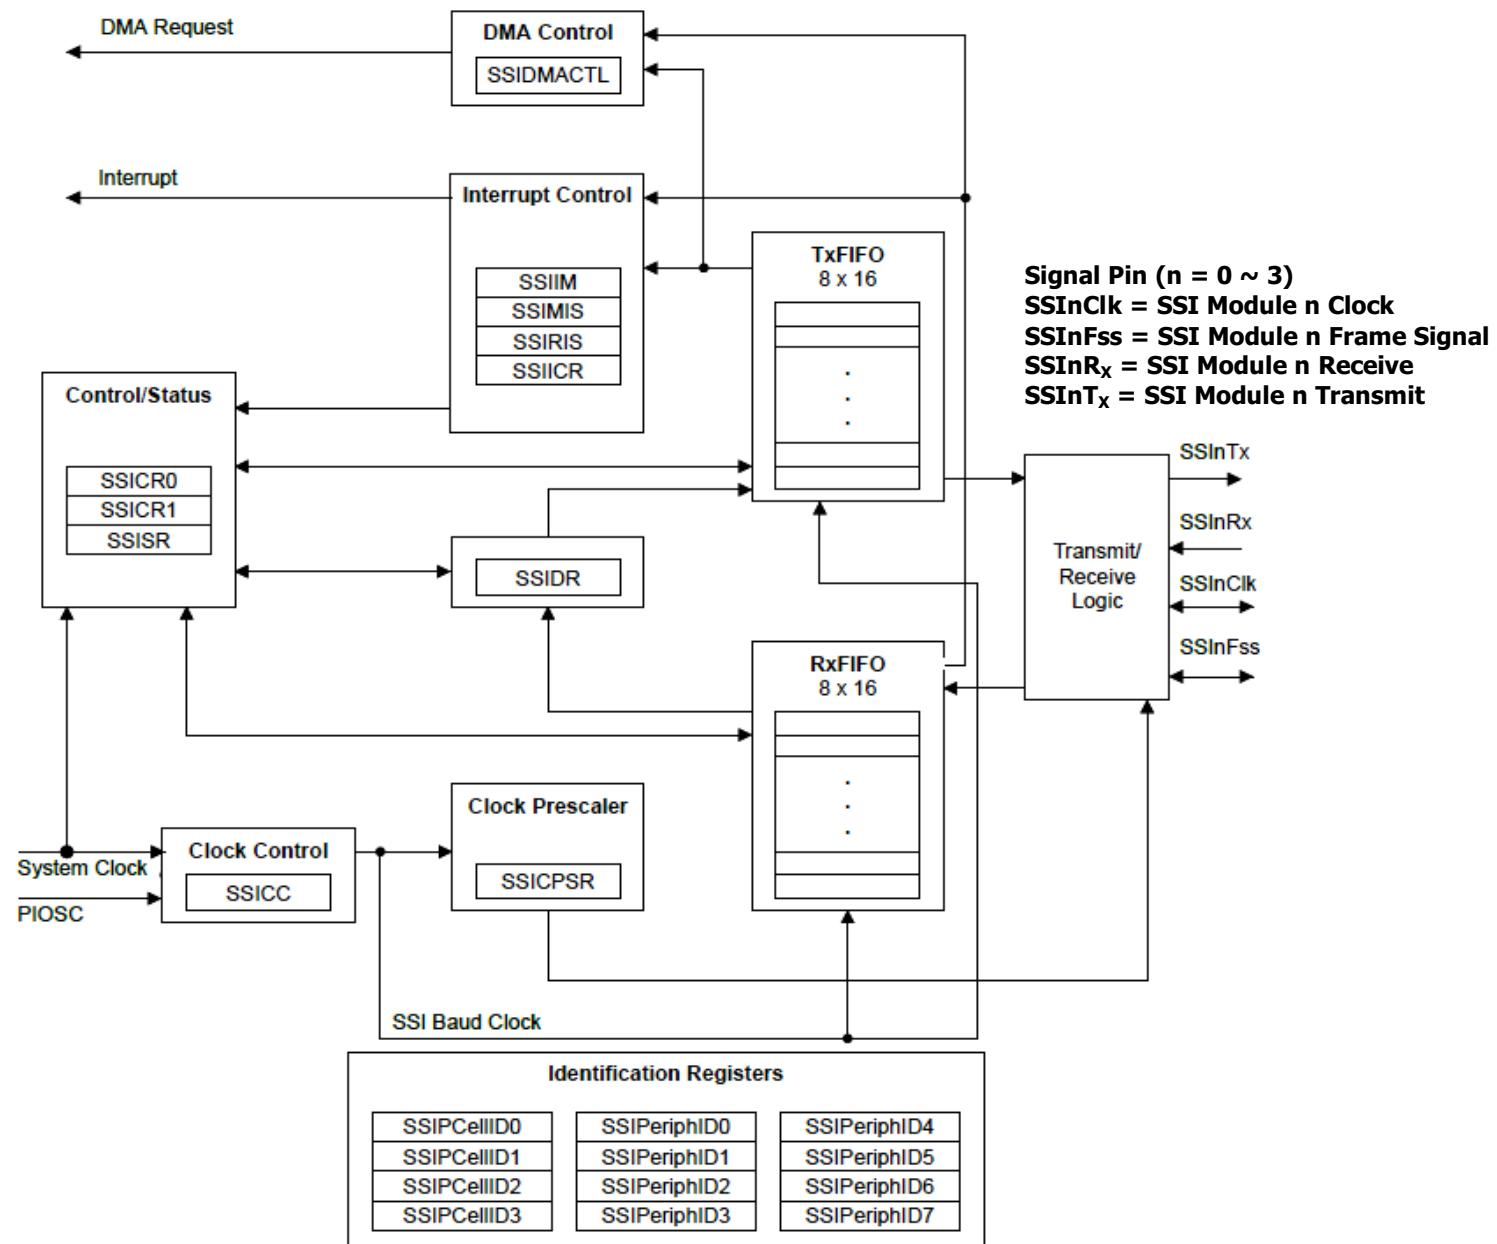

Figure 8.4 Functional block diagram of the SSI module.
- Figure 8.4 shows the architecture and functional block diagram for a single **SSI** module used in the TM4C123 system. For all four SSI modules, each module contains an identical and independent set of these registers to control and configure each SSI module's data transmitting and receiving functions.
- As shown in Figure 8.4, all **SSI** module components and their control functions are globally illustrated by this block diagram.